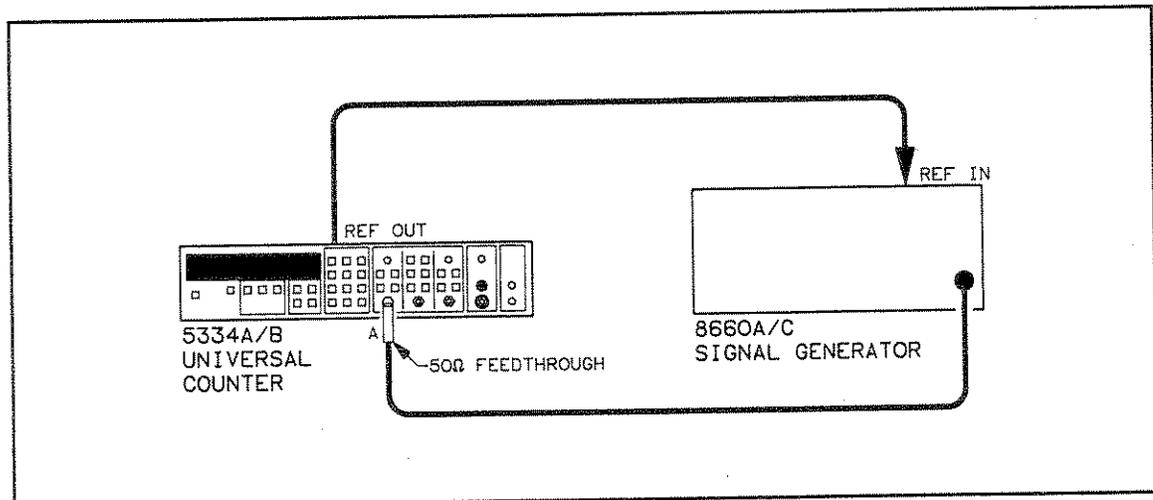

Figure 4-8. Period A Test Setup
- Connect the signal generator output to the HP 5334A/B Input A using a 50 Ohm feedthrough connector as shown in *Figure 4-8*.